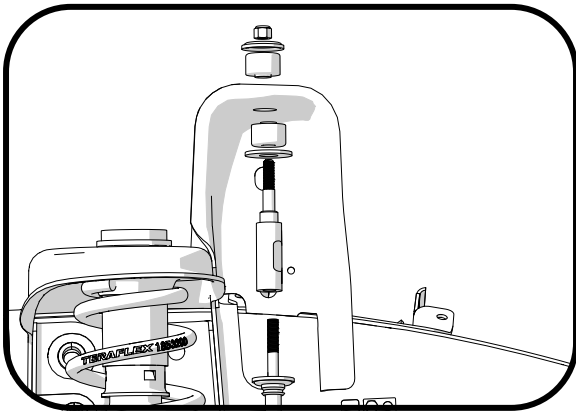

Figure 1
3. Put a the supplied washer on the shock extension. Orient one of the upper stem bushings as shown in Figure 1.